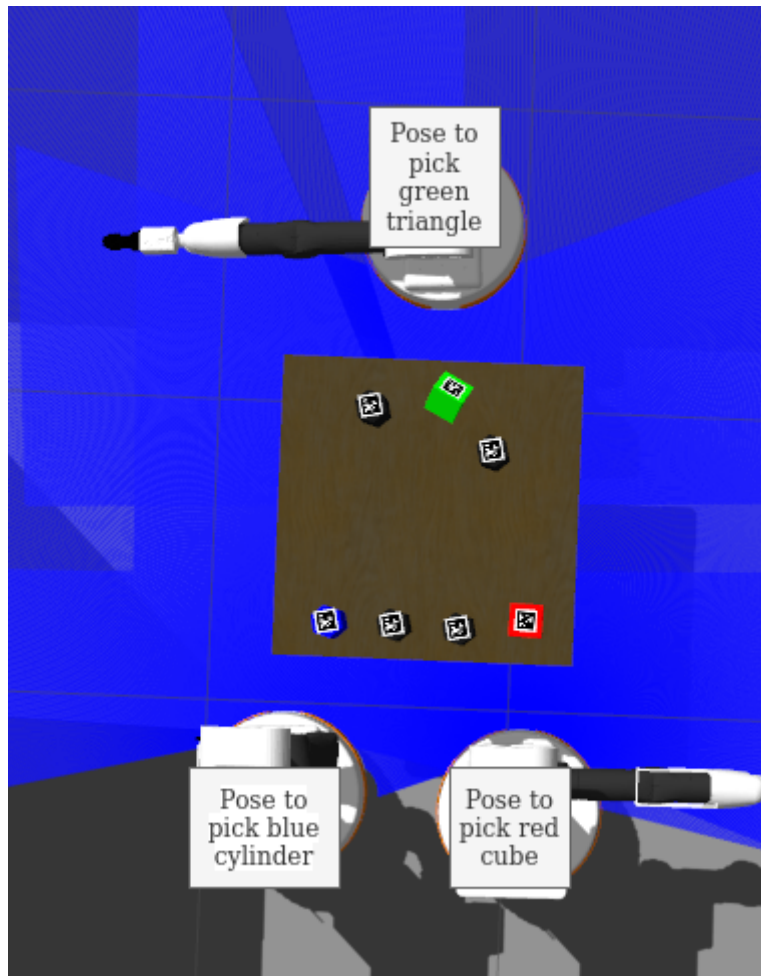

Figure 6
- Create a node (A) that sends a request to the human_node using a service. The latter is a node that simulates a human who tells the robot the sequence to pick up the objects. Thus, the human_node returns the object's ID that Tiago needs to pick. We provide the file .srv and the human_node that handles the request and sends the response.
- Use your node (A) to call the Action Server of HW1 and navigate to a position in front of the table.
- N.B: Since you have only three pickable known objects, you can configure 3 global positions in the front of the table to help you to detect the effective position of the objects on the table (Figure 6).
- With the other node (C), we suggest you implement the MoveIt routine.